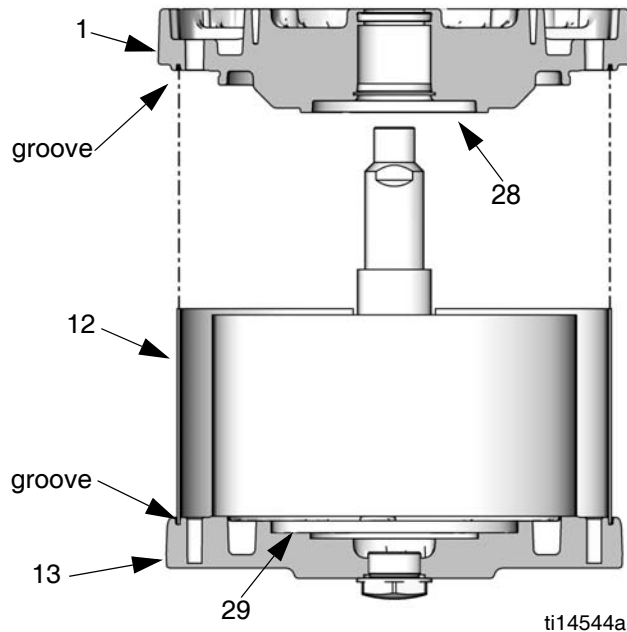

FIG. 13: Align shield in grooves on covers
- Lubricate and install the o-ring (9*) on the bottom cover (1).
- M07xxx, M12xxx, and M18xxx only:** Install the piston bumper (28) on the bottom cover (1).
- See FIG. 13. Carefully place the bottom cover (1) on the cylinder (11), sliding the rod through the bearing. The manifold surfaces of the top and bottom covers must align. Be sure the shield (12) is in the groove on both the top and bottom covers.